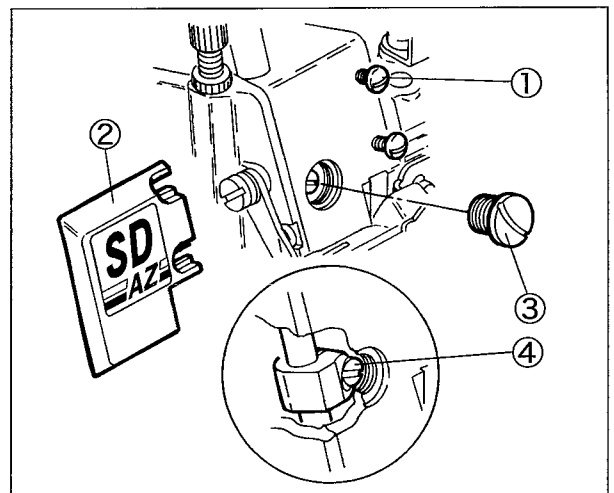

Fig. 6-19
- (1) Loosen the screws ① to remove the logo plate ②. (Fig. 6-19)
- (2) Remove the screw ③.
- (3) Rotate the machine pulley to raise the needle bar to the highest point.
- (4) Loosen the screw ④ and adjust the needle bar while moving it up and down.